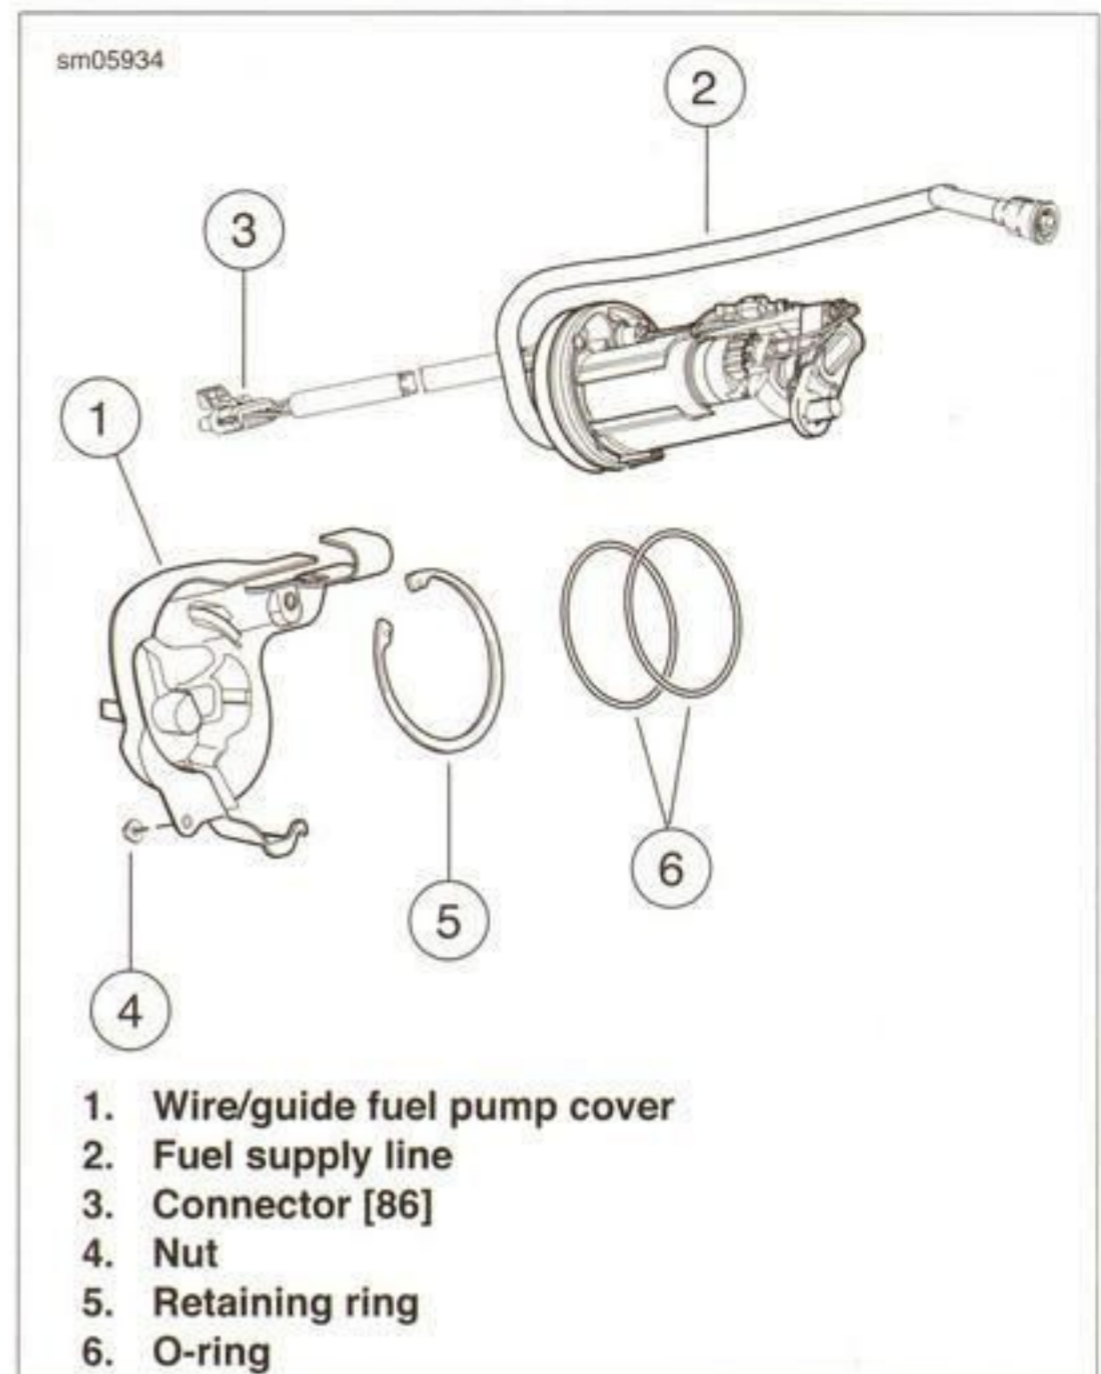

Figure 4-74. Fuel Pump Components
1. See Figure 4-74. Lubricate fuel pump O-rings (6) with clean engine oil.